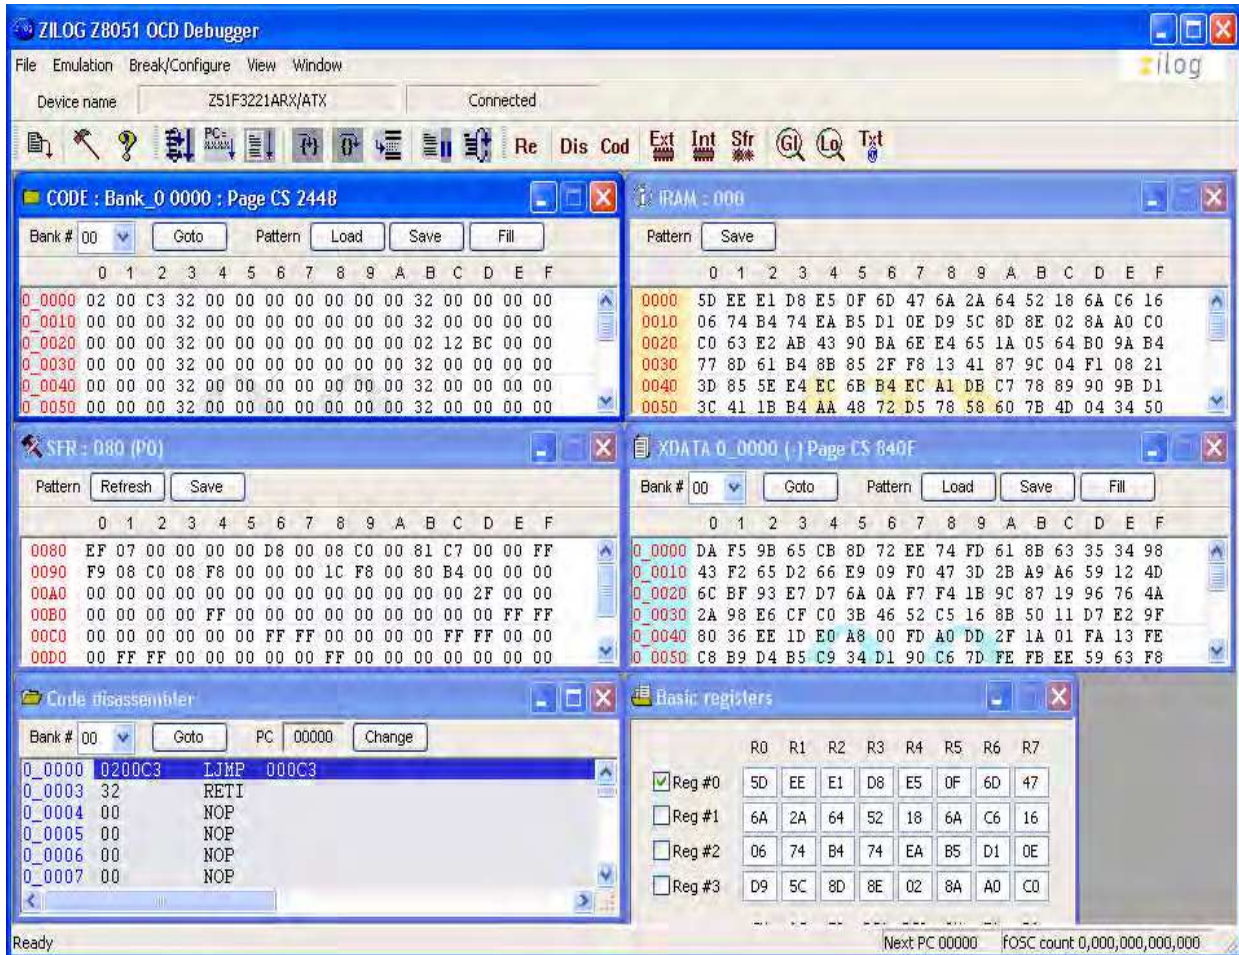

Figure 8. Successfully Installed Dialog, Windows Vista
5. When the installation is complete, the screen shown in Figure 8 will appear. Click **Close** to exit the OCD driver installation.
► **Note:** On some installations, the Found New Hardware screen shown in Figure 8 may also display the text string, Zilog Z8051 USB OCD - No Firmware. This occurrence is normal and can be disregarded.